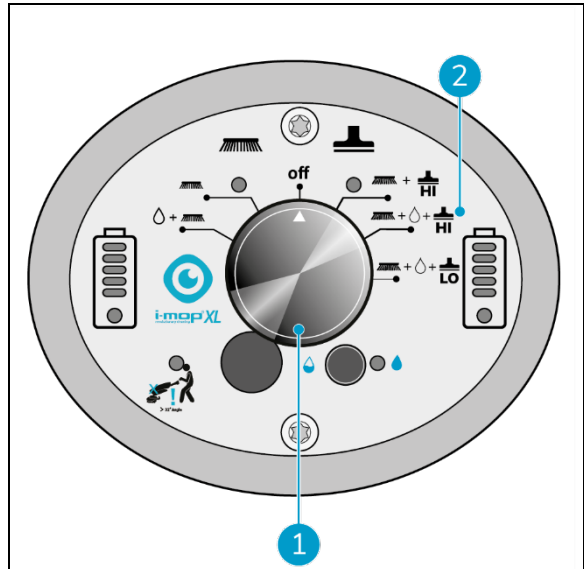

Figure 27
2. Use the i-mop XL Pro main switch (Figure 27, pos. 1) and choose MODE 4 Brush + Water/Cleaning solution + Dry vacuum (Figure 27, pos. 2).